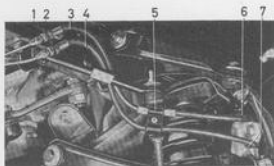

Fig. 5-19. Fitting front brake hoses
3. Remove the clip (5, Fig. 5-19). Disconnect the connection (2) and the lower hose (4) from the bracket. Place some kind of protective casing on the brake lines to prevent unnecessary leakage. Disconnect the connection (6) for the upper hose from the brake.
2. Fit the hoses and their connections as well as the guide clip, see Fig. 5-19. It is important that the hoses are fitted correctly, that is, without being tensioned and with the control arms off-loaded. Remove the plug for the vent-hole in the brake fluid container cover.